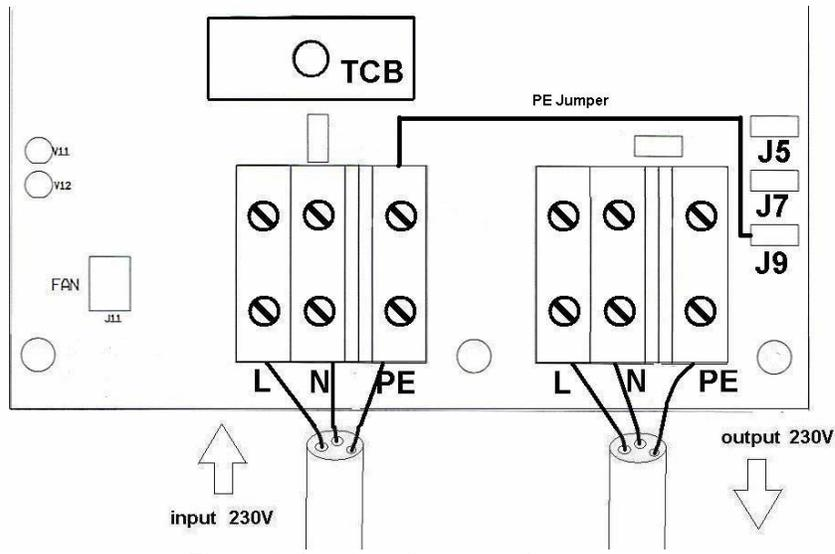

Figure 2: Input earth connection
2.2. Input earth connection (fig. 2)
- If the boat is on shore (winter period or maintenance), the PE conductor in the boat must be connected directly to the input PE, for safety reasons. This is achieved by connecting a PE jumper coming from the input PE terminal to male push-on connector J9 (jumper shown in black in fig. 2). This jumper is provided with the transformer.